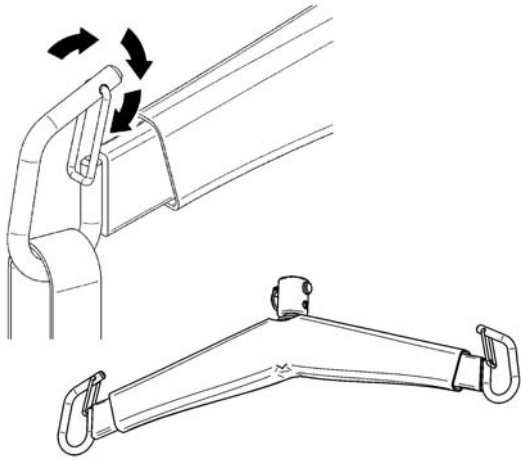

Figure 34
**The two point spreader bar (see figure 34) has hooks for use only with slings equipped with loops.**
**When attaching a loop sling to the two point spreader bar, always ensure the sling attachment loops are positioned correctly into the retaining hooks as shown in the inset in figure 34.**
**Check that the sling attachment loops are securely positioned within the spreader bar hooks. See figure 34. Before lifting the resident and that the loops remain that way as the resident is gradually lifted.**